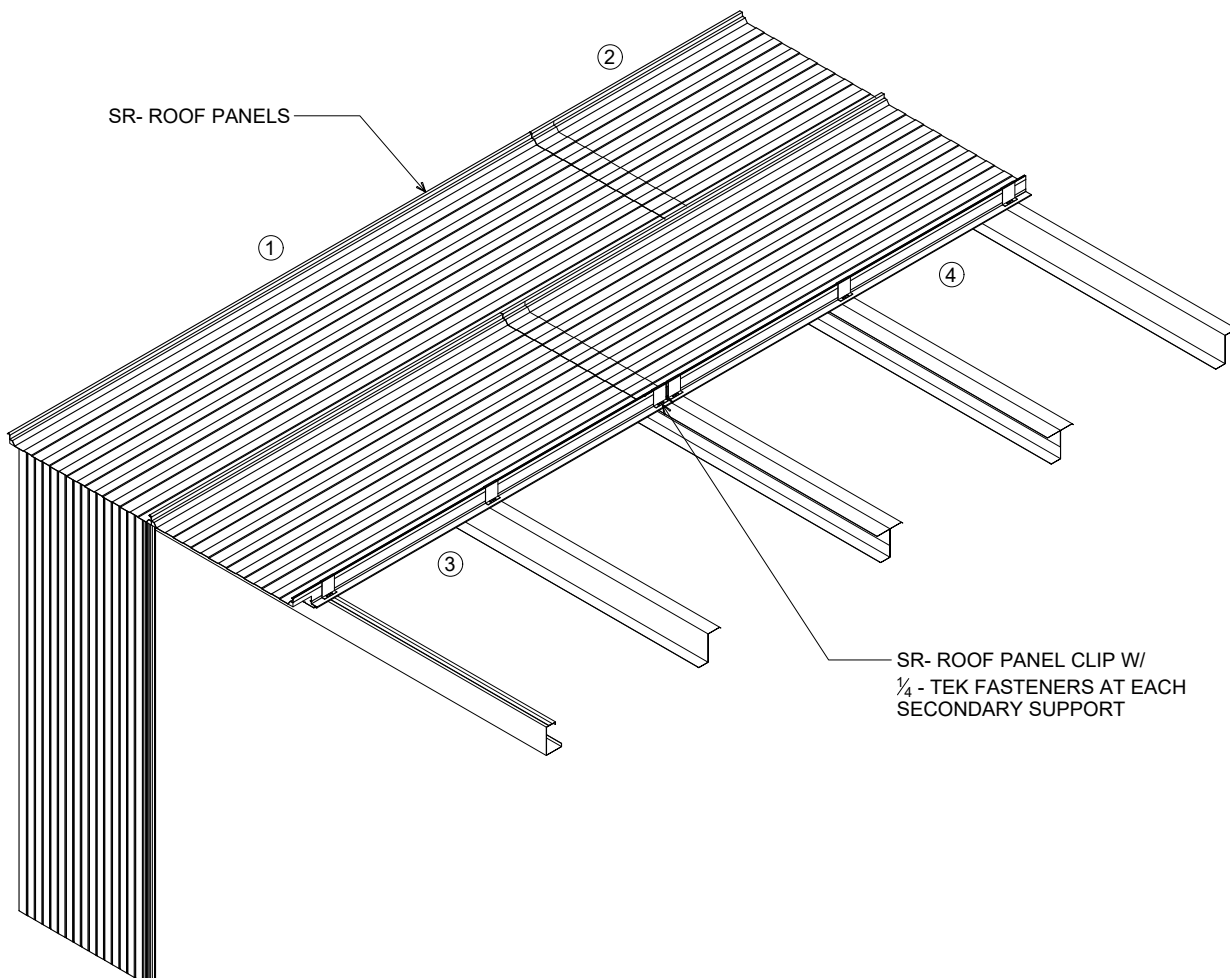

FIGURE 5
- 11.2 SR2 ROOF PANELS MUST BE INSTALLED IN A SPECIFIC SEQUENCE. THIS ENSURES THE CORRECT LAPPING OF THE SIDE AND END LAPS (SEE FIGURE 5, BELOW). THE PANEL NUMBERS CORRESPOND TO THE ORDER OF INSTALLATION.